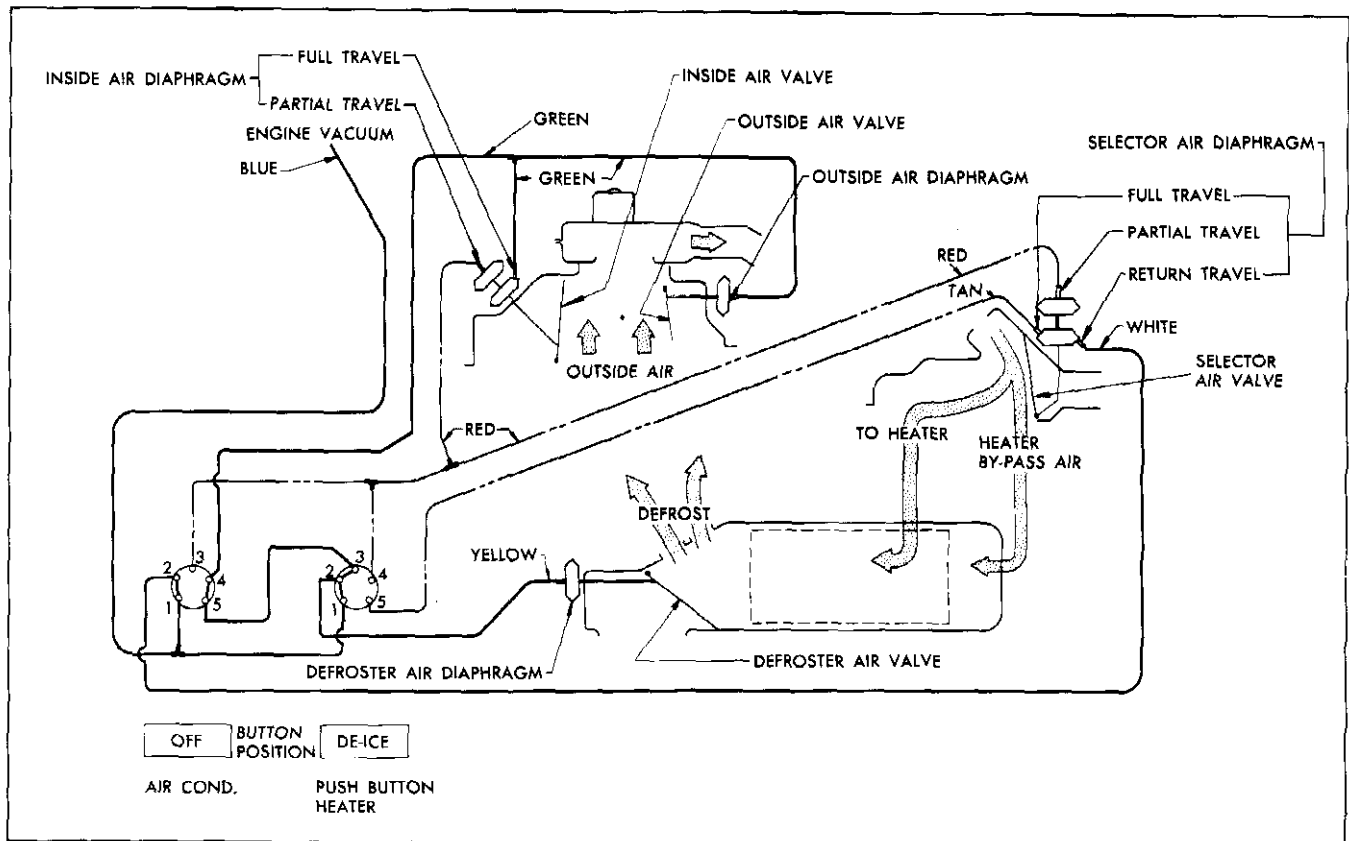

Fig. 6-25 Push Buttons: AC-OFF, Heater-DE-ICE.
**PUSH BUTTONS: AC-OFF, CIRC-L-AIRE HEATER-DE-ICE (See Fig. 6-25)**